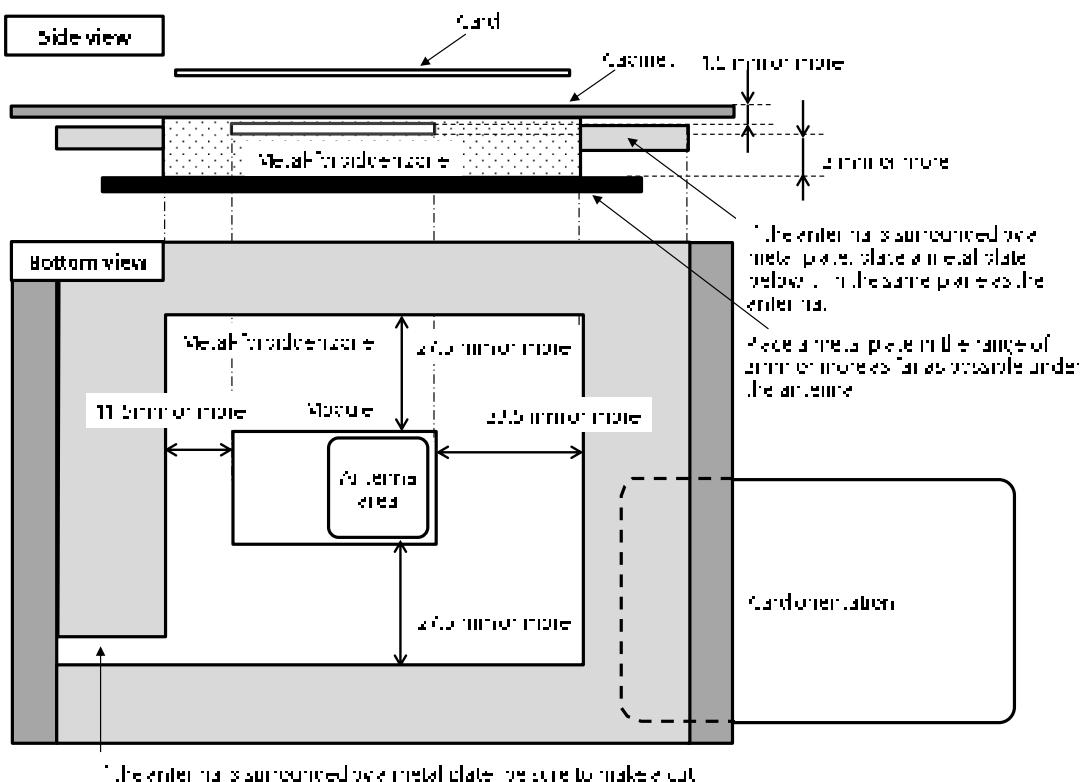

Figure A.1: Installation requirements
- Do not place any metal in the metal forbidden zone (represented by the dot meshed area in Figure A.1) secured around the module. Specifically, communication performance undoubtedly deteriorates if any plate like metal is placed near the module.